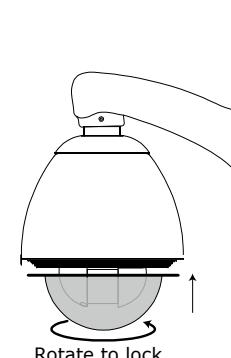

Figure 6
Step 7: Put the dome cover on the housing and rotate it counterclockwise to fix (Figure 6).